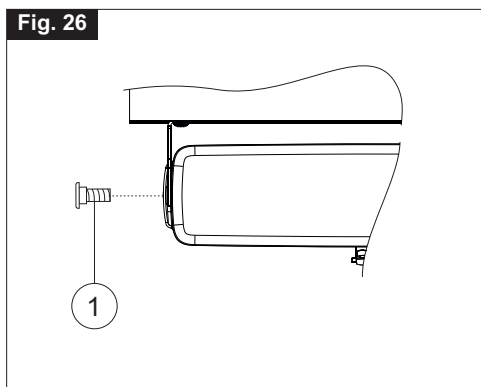

Fig. 27
- 8) **Fig. 27-** Connect the bracket for bottom hung opening (**Ref. 1**) to the chain end (**Ref. 2**);